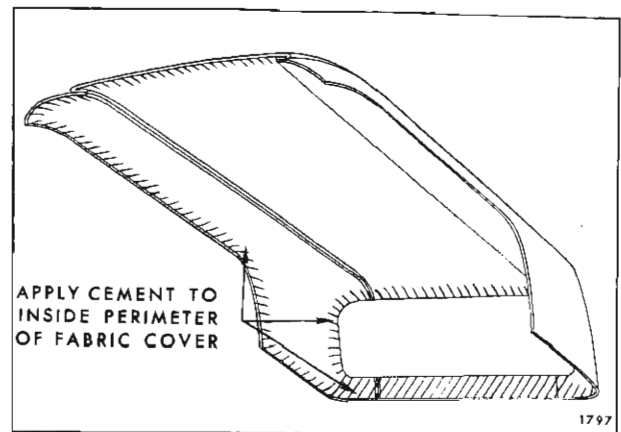

Fig. 1J3—Cementing Fabric Cover With Pad
of the roof panel where fabric cover is attached (See Fig. 1J3). (3M Vinyl Trim Adhesive, Permalastic Vinyl Trim Adhesive, or equivalent.) Allow to dry for fifteen minutes.
b. At back window opening, install a drive nail at each seam location. View "E" in Figure 1J1 is typical of both seam locations at back window opening.